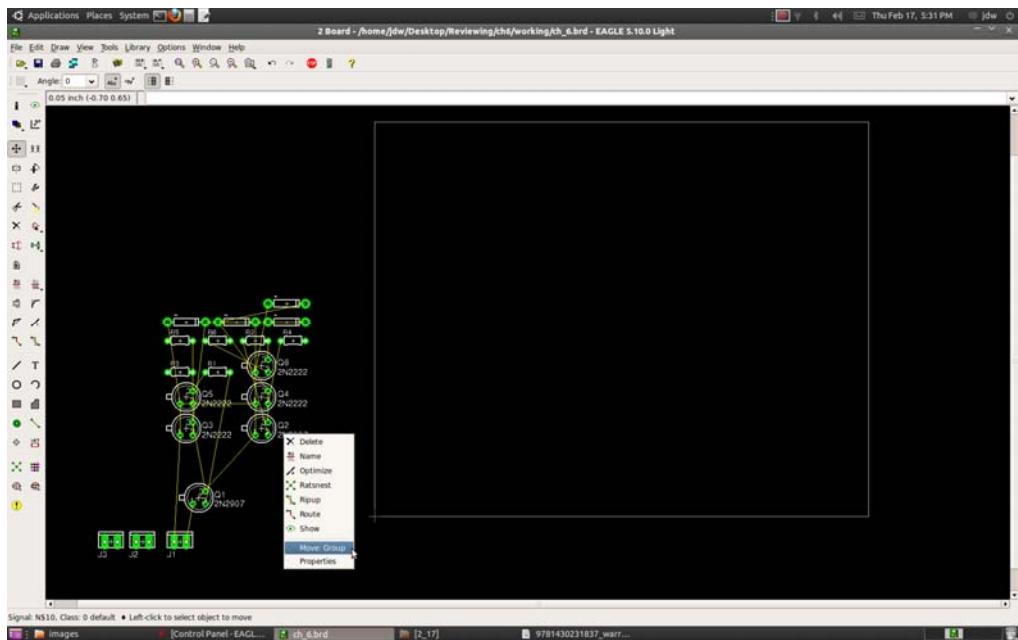

Figure 6-8. Each component needs to move into the workable layout board area.
2. *Move components:* With all the components now placed on the board editor screen, move each part into the working layout area, which is in the box on the board editor screen, as shown in Figure 6-8.